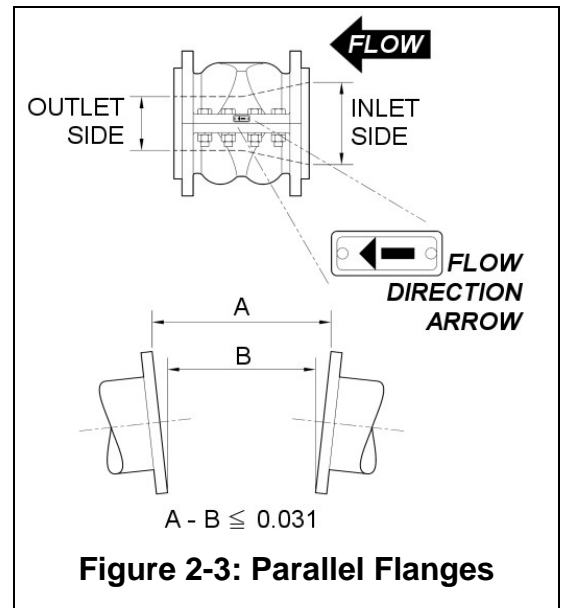

Figure 2-3: Parallel Flanges
aiRFlex® valves are bi-directional flow capable unless it is of reduced port type. For reduced port aiRFlex® valve the inlet side is greater than the outlet side. Install the aiRFlex® valve so that flow goes from inlet to outlet. Note that a stainless steel arrow riveted to the valve body also indicates flow direction. See figure 2-3.
STEP 1: Pipe flanges must be measured to insure they are parallel (see figure 2-3), maximum deviation from parallel $A-B \leq 0.031$ ". NOTE: Tightening bolts when flanges are NOT PARALLEL can cause damage and possible failure of the elastomer tube that serves as a gasket between the valve body and the pipe flanges.